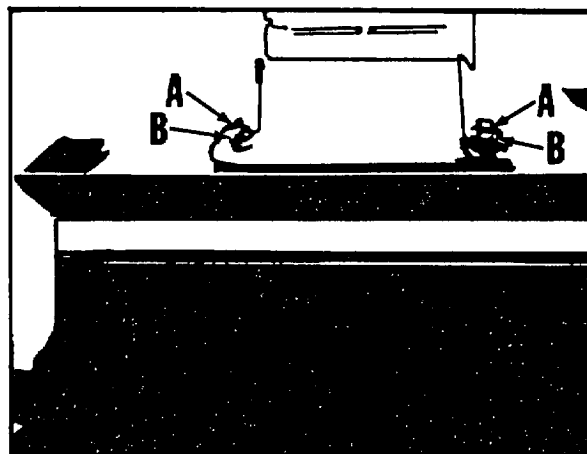

Fig. 15.
4. If an adjustment is necessary, loosen two bolts (A) Fig. 15, located at the front and rear of the left hand riser block under the headstock, adjust bushings (B) and retighten bolts (A). Repeat Step 3 and adjust further if necessary.